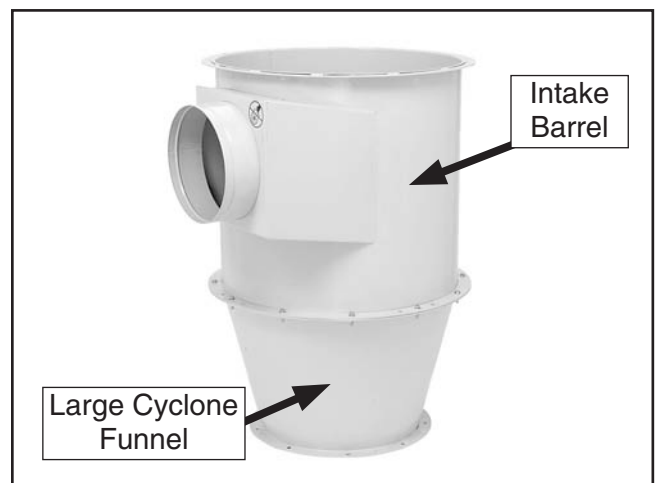

Figure 23. Intake barrel and large cyclone funnel.
- Connect the intake barrel and large cyclone funnel with (12) $\frac{5}{16}$ "-18 x $1\frac{1}{4}$ " hex bolts, (24) $\frac{5}{16}$ " flat washers, and (12) $\frac{5}{16}$ "-18 hex nuts in the mounting holes—excluding the left and right hole of the groups of three (see **Figure 23**).